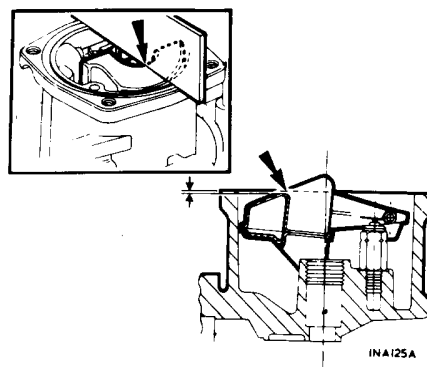

Fig. B30. Setting the Float level
c. After fitting the float and valve, invert the carburettor so that the needle valve is held in the shut position by the weight of the float only. Check that the point indicated on the float (see illustration Fig B30) is 0.04/0.02 in (1.0/0.5 mm) below the level of the float chamber face. Adjust the float position by carefully bending the brass pad. Check that the float pivots correctly about the spindle.